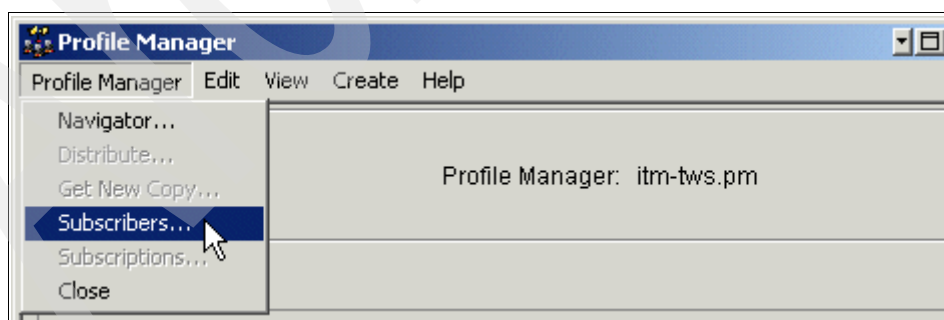

Figure 9-21 Adding subscribers to a profile manager
1. Select the **Profile Manager** → **Subscribers...** as shown in Figure 9-21.